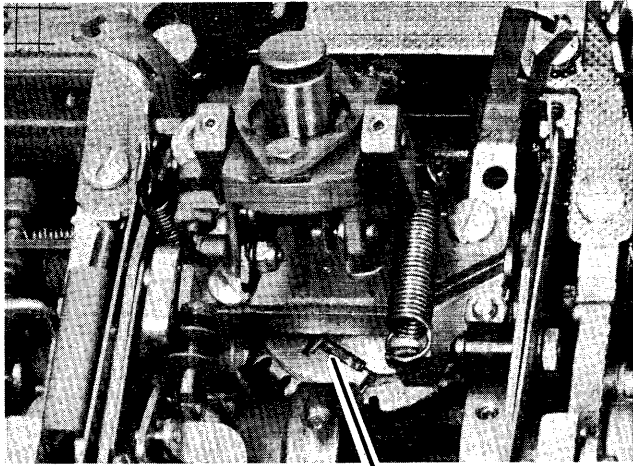

Figure 18. Rotate Tape Replacement
6. Pull the tape through and insert the T-tip of the tape into the T-slot of the pulley (#1, Figure 18).